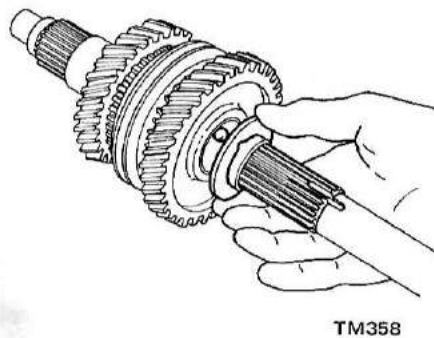

Fig. TM-28 Installing thrust washer
1. Assemble 2nd gear needle bearing, 2nd gear, baulk ring, 1st & 2nd speed synchronizer assembly, 1st gear baulk ring, 1st gear bushing, needle bearing, 1st gear, steel ball, and thrust washer on mainshaft. Before installing a steel ball, apply grease to it. See Figure TM-28.